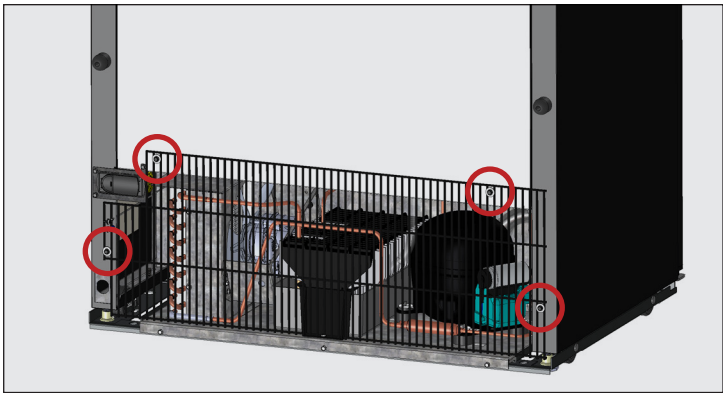

Fig. 1. Example of rear grill screw locations. Varies by model.
2. Remove the rear grill from the appliance. See fig. 1.